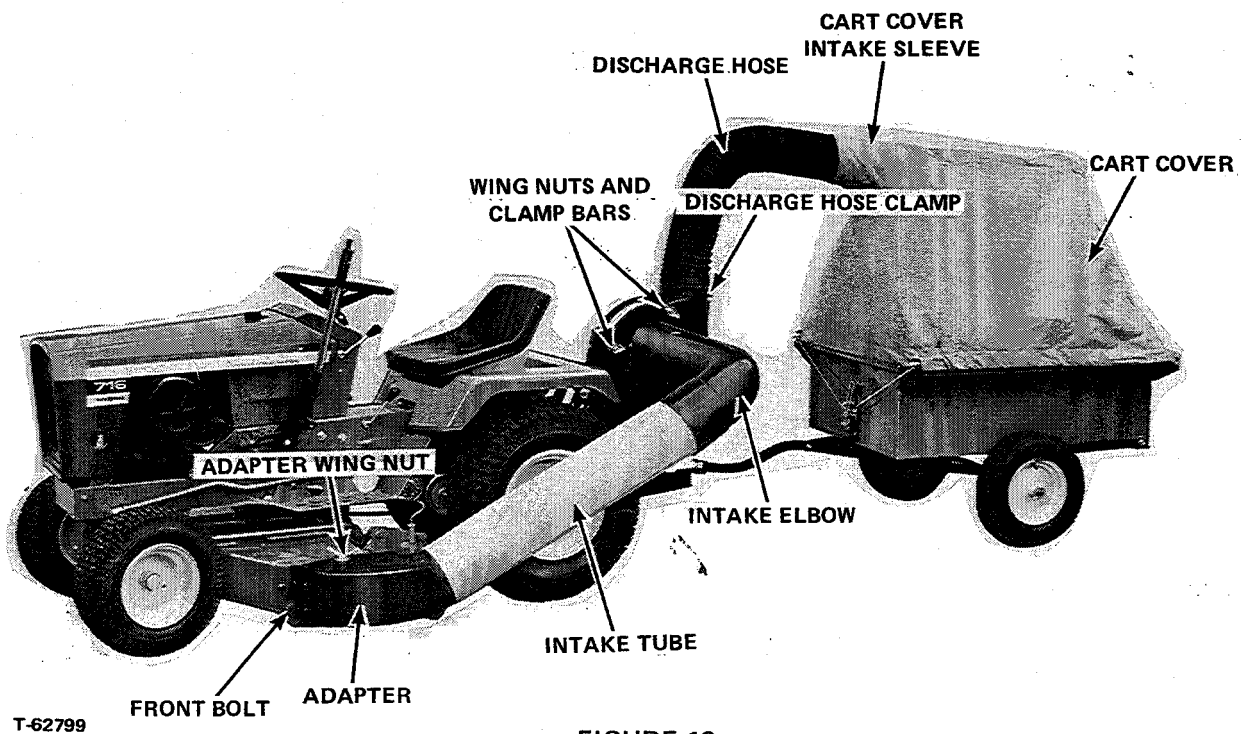

FIGURE 13
7. Slip one end of the intake tube over the rear end of the adaptor on end of mower housing. Slip the other end inside the short end of the intake elbow and at the same time place the intake flange on the other end of the intake elbow flat against the L.H. face of the vacuum collector above the fan intake and slide the flange down into the several retaining clips welded to fan intake sheet. When flange is fully seated under the retaining clips swing the clamp bars under the wing nuts down over the upper part of intake flange and tighten wing nuts. Tighten lock-nuts against wing nuts. (See Figure 13.)
8. Place one end of the discharge hose over discharge deflector and discharge opening of blower and fasten in place with hose clamp (Figure 13).
9. With cart hitched to the drawbar on rear of vacuum collector frame, place rear end of discharge hose inside the cart cover intake sleeve, pull sleeve forward and tighten sleeve strap around discharge hose to hold it in place as shown in Figure 13.
3. Remove adaptor wing nut (Figure 13) and remove adaptor from end of mower housing. **DO NOT** remove the long bolt in top of housing from which wing nut was removed.